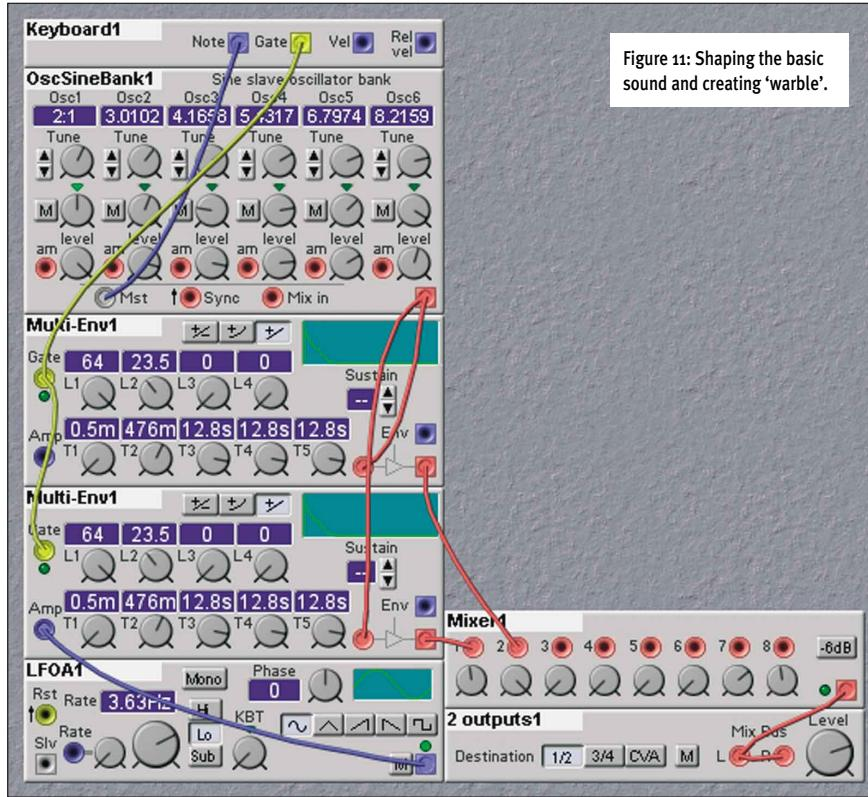

Figure 11: Shaping the basic sound and creating 'warble'.
► amplitude envelope of the whole sound rather than individual harmonics, but the effect is subjectively good (see Figure 11, above).
sound. I have generated the first of these with two-operator sine-wave FM synthesis, the output from which is passed through another envelope generator/amplifier with shorter decay/release times than the ones in Figure 11. The resulting sound is not particularly complex, but it is atonal, and